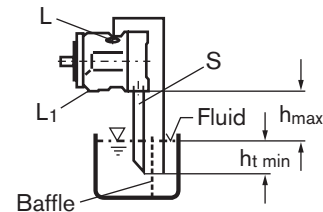

Fig. 4
Pipe port "L" and "S" acc. to fig. 4, port "L₁" closed. (compare limiting conditions)
a) When mounting above the reservoir: see fig. 4 (compare item limiting conditions)